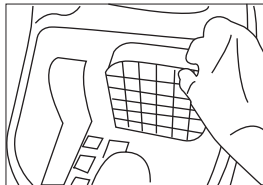

Fig 19
2. Inlet filter: clean the filter with warm water and allow to dry fully before placing back into the unit. (Fig 19)